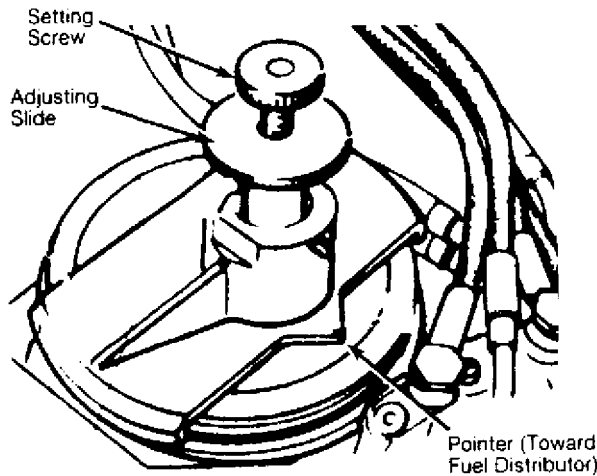

Fig. 4: Sensor Plate Adjustable Holder (VW 1348/1)
3) Ensure lines are not kinked or bent. Loosen fittings to align fuel lines and retighten. Remove rubber boot from airflow sensor housing above sensor plate. Turn and lift setting screw and adjusting slide of Sensor Plate Adjustable Holder (VW 1348/1) into upper position. This simulates full throttle operation. See Fig. 4.